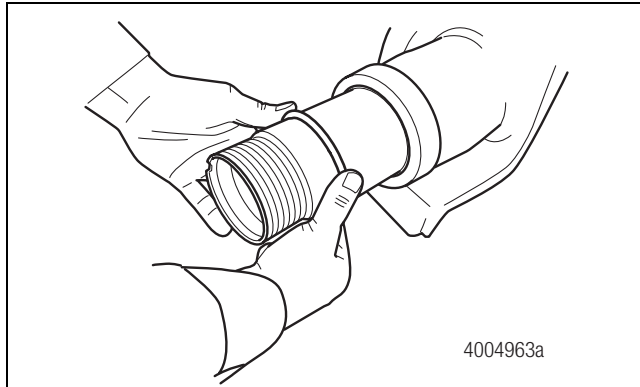
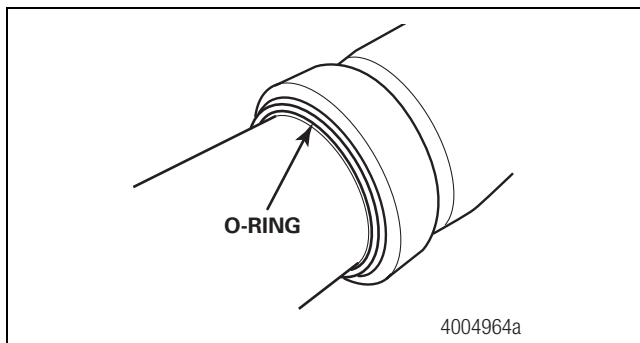

Figure 3.25
Figure 3.26
- B. Slide the O-ring onto the spindle. Figure 3.25. The O-ring must be positioned so it rests at the corner radius of the backup collar. Figure 3.26.